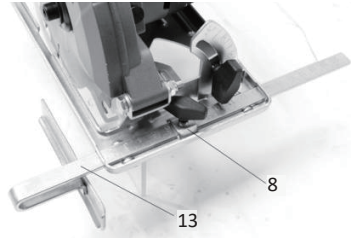

Fig. 4
5.4 Mounting the guide bar (Fig. 4)
- a) Loosen the locking screw for the guide bar (12).
- b) Insert the guide bar (13) into the guide bar holder (8). Make sure the markings are facing upward.
- c) Move the guide bar to the desired position and tighten the locking screw for the guide bar (12). Be sure to select the cutting angle first before positioning the guide bar.